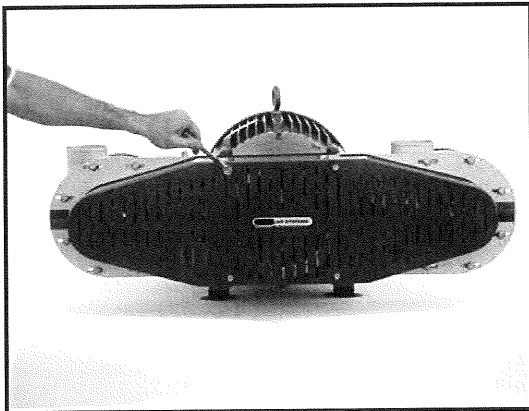

Figure 28 - Remove Belt Guard
1. Remove the belt guard using the ½ inch box-end wrench. (See Figure 28)